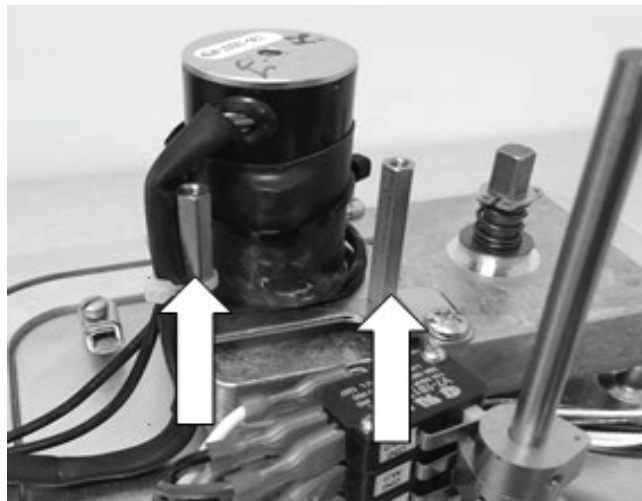

Figure 8.
- 4.10 Remove the 2 pot bracket standoffs from the motor/gearbox and retain them for future use, see Figure 8.